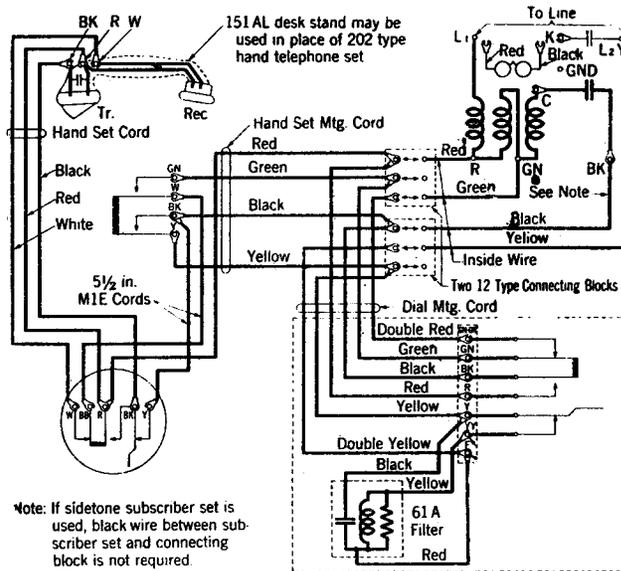

Fig. 3—Connections for D-97807 Dial
3.01 The D-97807 Dial should be installed in the same manner as a desk stand or a hand telephone set. The mounting cord should be connected to the subscriber set and the associated desk stand or hand telephone set by means of connecting blocks as shown later in Fig. 3. These connecting blocks should be placed at one of the locations specified for the connecting blocks normally used with desk stands or hand telephone sets.
4.01 The connections for the D-97807 Dial are shown in Fig. 3. This figure shows anti-sidetone equipment. The subscriber set may be either sidetone or anti-sidetone but the desk stand or hand telephone set must be of the anti-sidetone type. For a limited time it will be necessary to make special arrangements if a D-97807 Dial must be installed with a Combined Hand Telephone Set or with a Local Battery Talking Set.